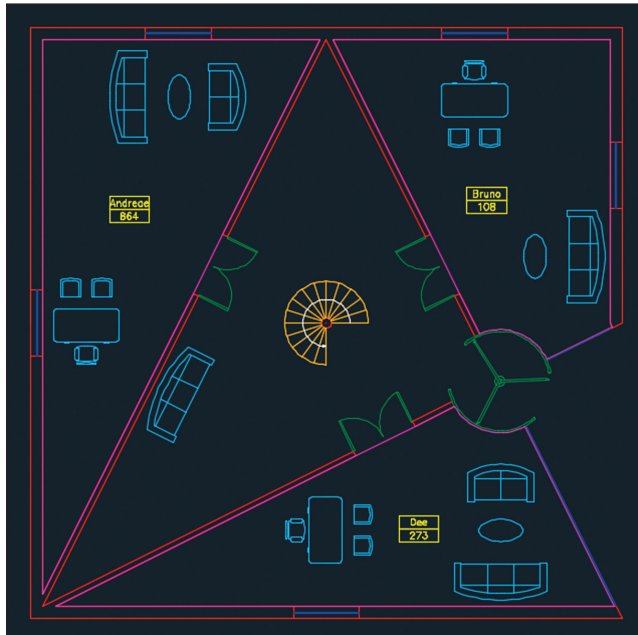

FIGURE 15.15 Three Employee Data blocks inserted and their attribute values entered
5. Press the spacebar to repeat the INSERT command and press Enter. Click a point in the center of the room on the bottom. Type **Dee** as the employee name, press Tab, and type **273** as the identification number in the Edit Attributes dialog box. Click OK. Figure 15.15 shows the result.